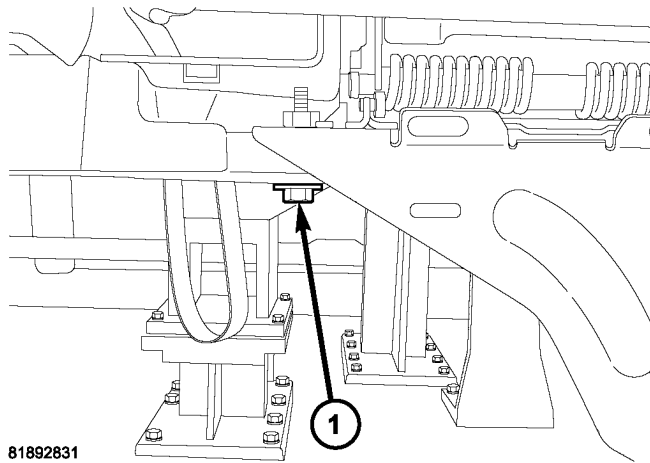

Fig. 4 UNDERSIDE TUMBLE MECHANISM BOLT
5. Loosen the underside tumble mechanism bolt (Fig. 4)
9. Tighten the underside tumble mechanism bolt to 34 N·m (25 ft. lbs.) (Fig. 4).